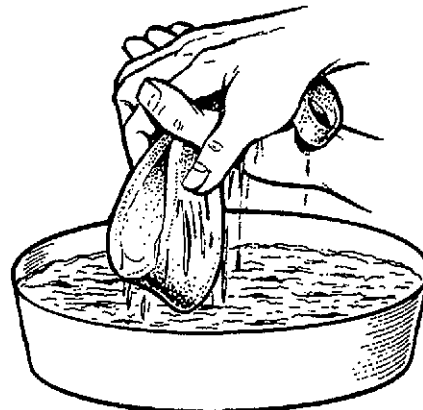

FIGURE 5. AIR CLEANER ASSEMBLY
1. Wash element wrapper in water and detergent (Figure 5). Remove excess water by squeezing like a sponge. Allow wrapper to dry thoroughly.